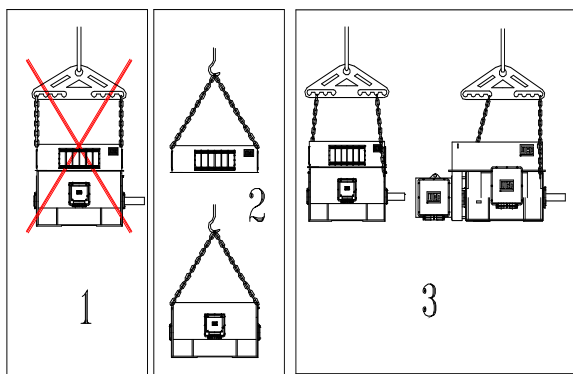

Figure 3.1: Motor handling
- The motor must be handled as indicated in positions 2 and 3 of Figure 3.1;
- If the center of gravity is not perfectly in the center of the lifting lugs, use one of the methods shown in item 3 of Figure 3.1.